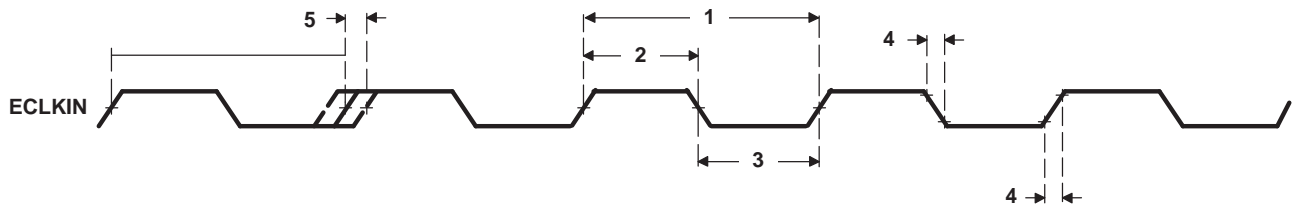

Figure 5-8. ECLKIN Timing for EMIFA and EMIFB
5.1.4 Timing Requirements ECLKIN for EMIFA and EMIFB ⁽¹⁾ ⁽²⁾ ⁽³⁾ (see Figure 5-8)